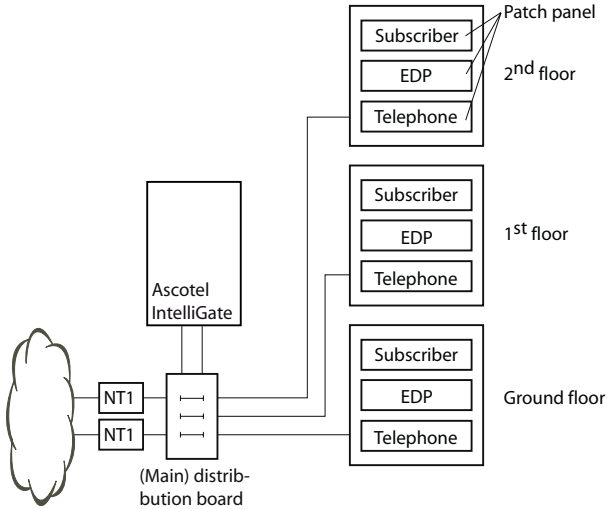
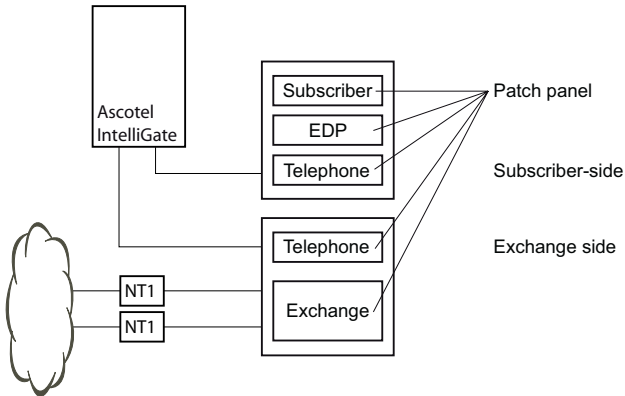

Fig. 34 Connecting to a UBC via a (main) distribution board (example)
Fig. 35 Connecting to a UBC via wiring centre (example)
- Indirect connection via (main) distribution frame and any universal building cable installation (UBC) (see also Fig. 34 and Fig. 35).